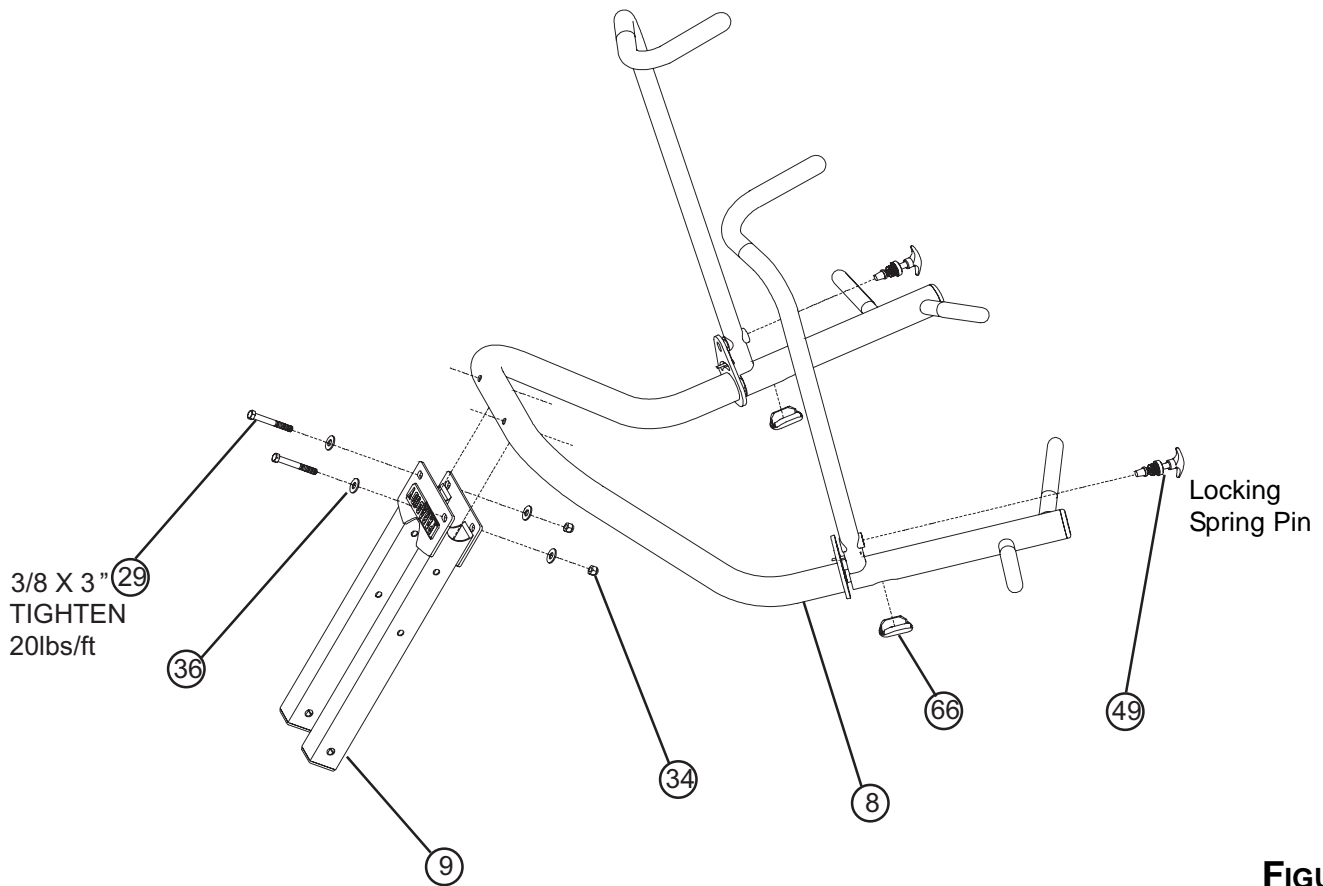

FIGURE 8
- Place the PRESS ARM (8) into the PRIMARY PIVOT (9) and securely tighten using two 3/8 X 3" SILVER BOLTS (29), four 3/8" FLAT WASHERS (36), and two 3/8" LOCK NUTS (34).
- Insert and tighten two 3/8" LOCKING SPRING PINS (49) into the PRESS HANDLES (6 & 7).
- Lock the PRESS HANDLES (6 & 7) into place using the 3/8" LOCKING SPRING PINS (49).
- Insert one OVAL END CAP (66) into the opening of each handle as shown in FIGURE 8.
- To disengage the LOCKING SPRING PINS (49), pull out and twist 1/4 turn.